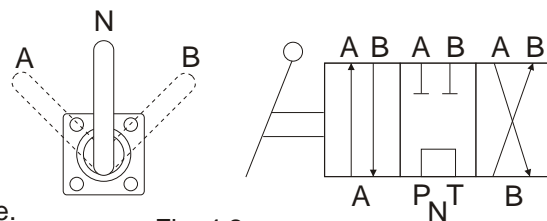

Fig. 4.2
4.2 Manual Control Valve (Fig. 4.2)